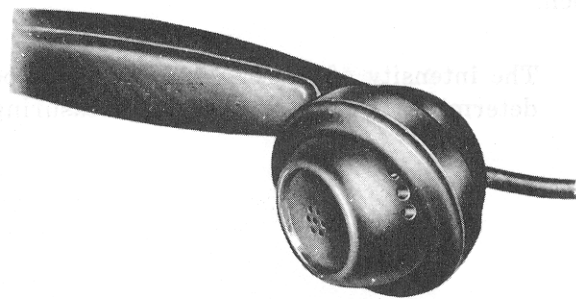

Fig. 2 — No. 9797 Transmitter
5.02 The No. 9797 transmitter is designed to fit F-type hand set (see Fig. 2). To install transmitter, simply replace transmitter cap and transmitter unit of F-type hand set with No. 9797 transmitter.